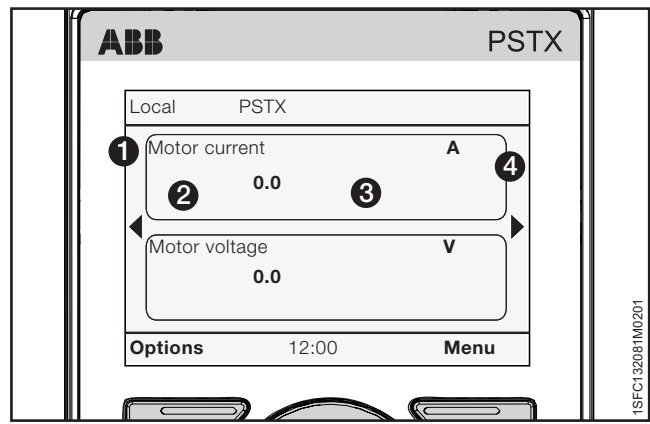

Figure 6.20
Select the display style for the home view. The selected display style is shown by ❷ in Figure 6.20.
Push "Save" to save the value. Decimal numbers are shown in ❸ in Figure 6.20.
Push  "Save" to save the display name. Display name is shown by ❶ in Figure 6.20.
Push  "Save" to save the value. Value is shown by ❸ in Figure 6.20.
Display signal min as - Push  "Edit" to select the scaled minimum value in the Home view. Use the Navigation keys to change the value, Push  "Save" to save the value. See ❸ in Figure 6.20.
Display signal max as - Select the scaled maximum value to show in the Home view. Use the Navigation keys to change the value, Push  "Save" to save the value. See ❸ in Figure 6.20.
Display unit - Type in the unit to show in the Home view. You can type a unit with up to 10 characters. Use the Navigation keys to change the characters. Push  "Save" to save the Home view unit name. See ❹ in Figure 6.20.